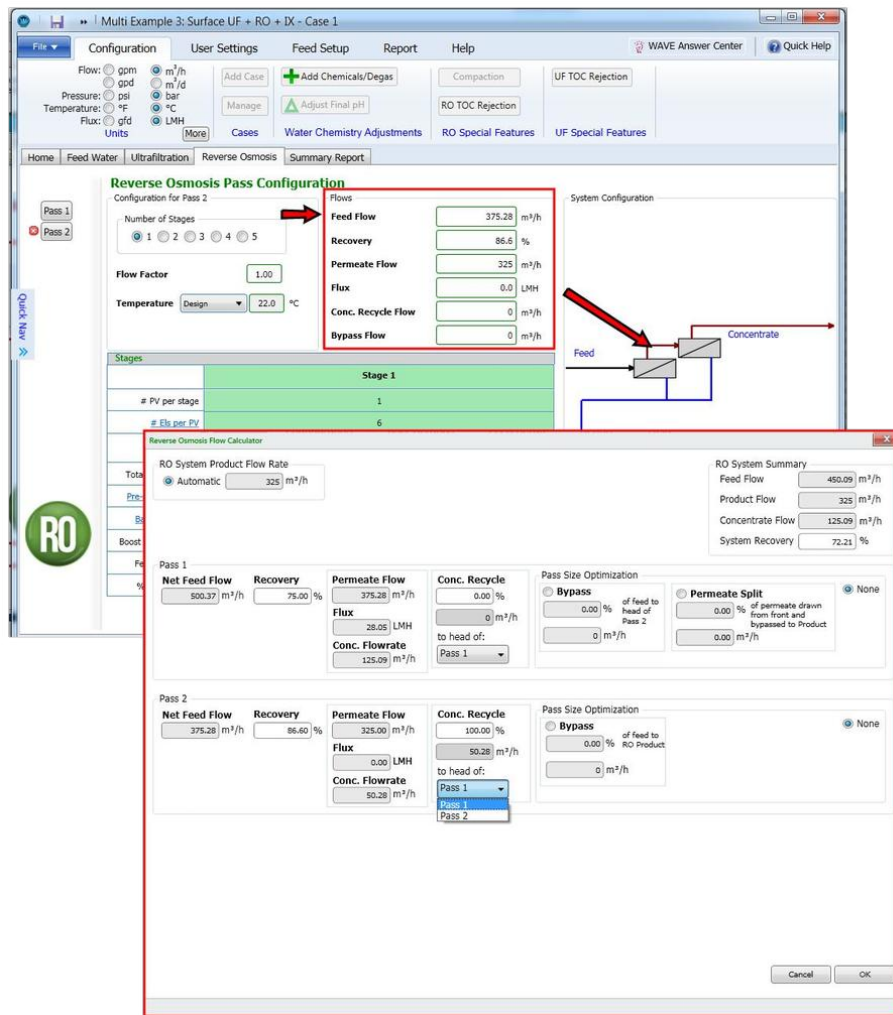

Figure 131. Specification of RO/NF/ROSC system Concentrate Recycle to Feed: Before (Upper image) and After (Bottom image)
To help improve System Recovery, a WAVE user may be interested in recirculating the concentrate from a pass to the feed of the same or a different pass. This can be done as follows (and shown in Figure 131):
2. Click on any entry field in the below Specification area (shown in Figure 131). The Flow Calculator Pop-up Window Specification of RO/NF/ROSC system Concentrate Recycle to Feed: Before (Upper image)